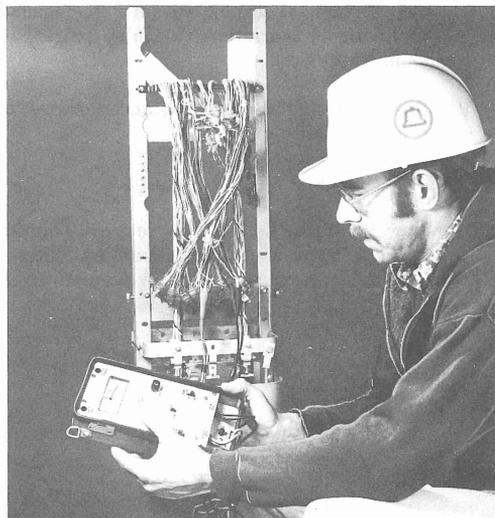

Fig. 4—Connecting to Pair to be Tested
(1) Set CAL TEST switch to TEST position.
(2) Move GAUGE switch to gauge of cable being tested.
(3) Move TEMP switch to approximate temperature of cable.
(4) Connect OPEN PAIR (white wire with red insulator) test leads to cable pair that is open at far end (Fig. 4).
- (5) Connect SHORTED PAIR (black wire with black insulator) test leads to cable pair that is shorted at far end (Fig. 4).
- (6) Depress and hold RUN button.
- (7) Read meter deflection, release RUN button and record result.